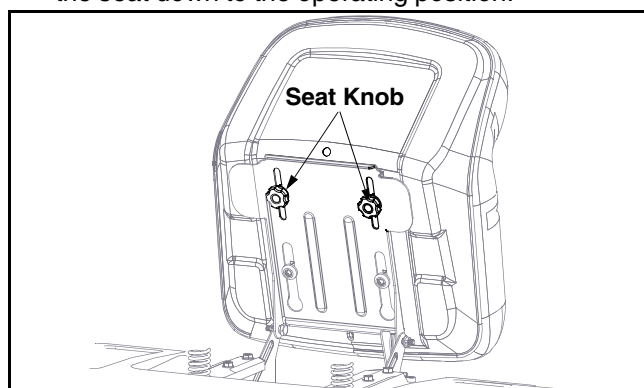

Figure 12
- Flip the seat up as shown in Figure 12.
- Loosen the two seat adjustment knobs located under the seat. See Figure 12.